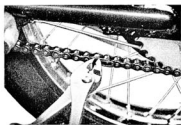

Fig. 4-1-11
10. Remove the chain. (Fig. 4-1-11)